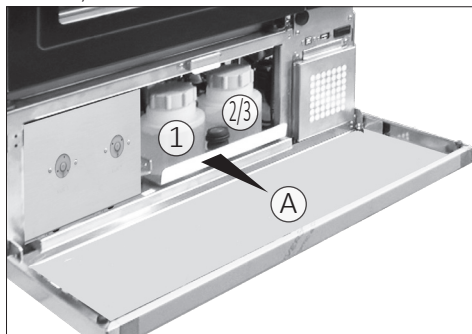

Fig. 11.1
The liquid containers are positioned at the bottom of the machine, inside a door closed with a key (Fig. 11.1 and 11.2).
- 1) Open with the key and pull manually to remove the drawer (A Fig. 11.1).